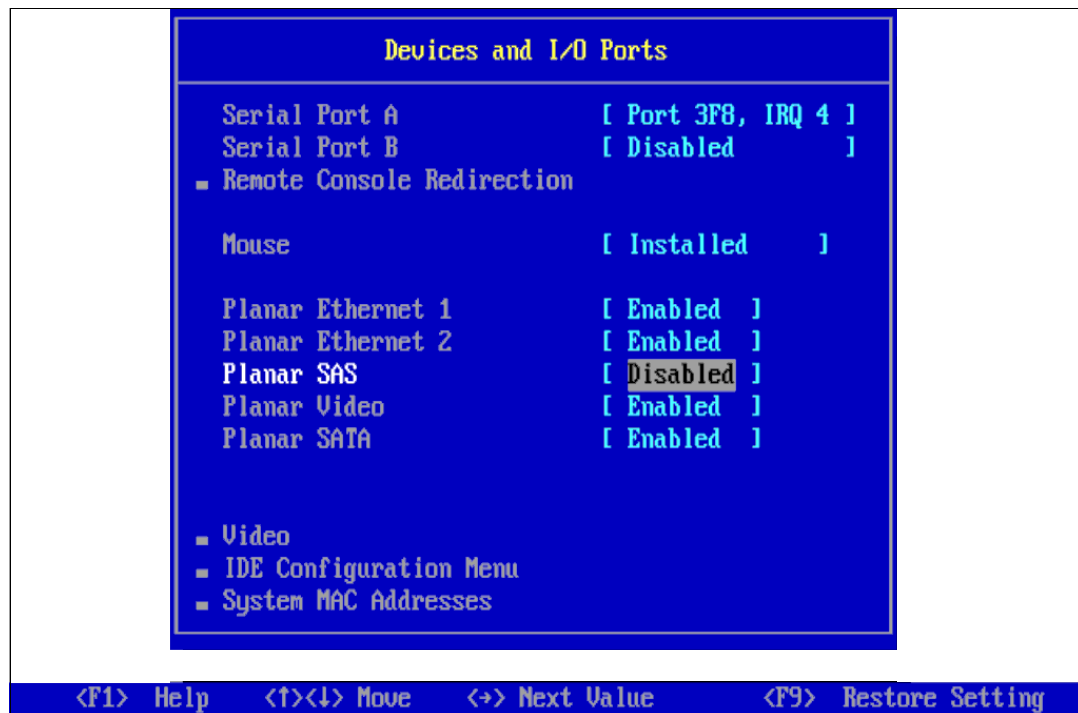

Figure 2-10 Disabling the Planar SAS
3. Select **Planar SAS** from the next menu and disable the port, as shown in Figure 2-10.